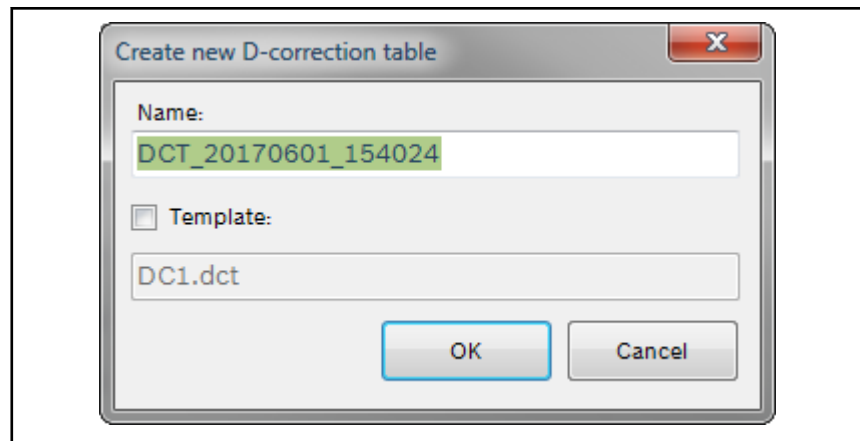

Fig. 7-43: Dialog to create new D-correction table
A dialog (see fig. 7-43 "Dialog to create new D-correction table" on page 198) opens to create a new D-correction table (continue with point 3).
A dialog opens to create creating a new D-correction table (see fig. 7-43 "Dialog to create new D-correction table" on page 198).
1. Open the **New** dialog (see fig. 7-43 "Dialog to create new D-correction table" on page 198) as described above.